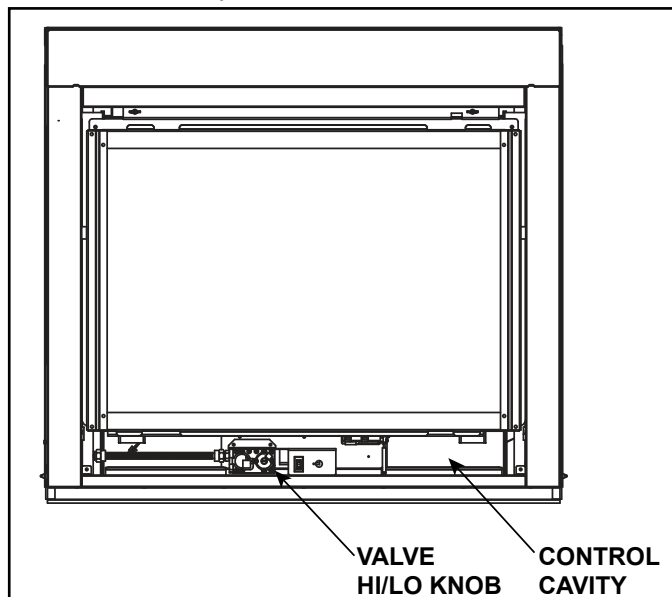

Figure 3.6 Control Cavity/Valve Location
The Mercury models have a variable burn rate which is controlled by the HI/LO knob on the gas valve. Therefore the flame height is adjustable. The HI/LO knob is shown in Figure 3.6. It is located in the control cavity of the appliance. The HI/LO knob may be adjusted as desired by turning clockwise to the HIGH position and by turning counterclockwise to the LO position.
The IntelliFire intermittent pilot ignition system comes with a battery backup system that enables the system to operate in a power outage. A factory-installed battery pack is located in the control cavity of the appliance. See Figure 3.6. Batteries should not be placed in the battery tray while using electrical power to operate the fireplace. Remove batteries from battery tray when power has been restored.
1. Access the control cavity of the appliance. See Figure 3.6 for location. The decorative front may need to be removed.